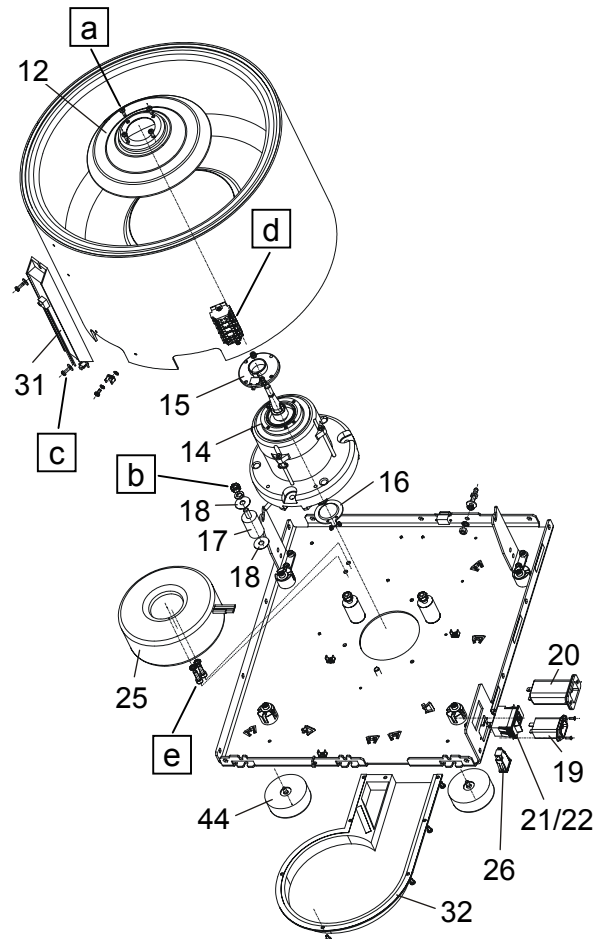
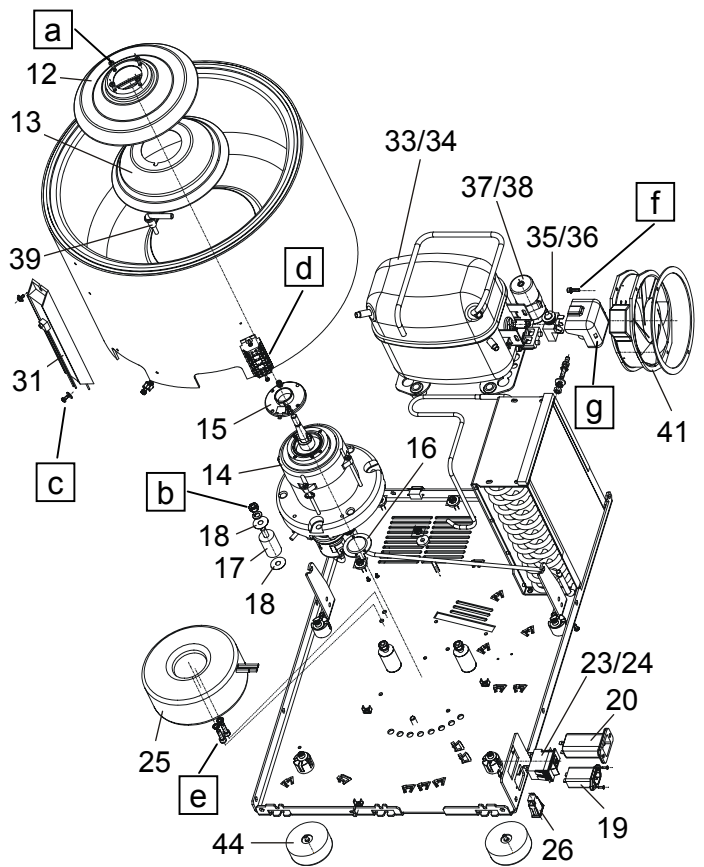

Fig. 4
Fig. 8
- Undo the 4 screws (pg. 78, Fig. 4, a ; pg. 79, Fig. 8, a) on the motor cover and remove the motor cover.
- In centrifuges with cooling, remove the rubber packing (pg. 79, Fig. 8, item 13) between the motor cover and the centrifuge chamber.
- Unscrew the speed sensor (pg. 78, Fig. 4, item 15 ; pg. 79, Fig. 8, item 15) from the upper end plate of the motor (2 screws) and place it in the centrifuge chamber.
- Unscrew the 3 nuts (pg. 78, Fig. 4, b ; pg. 79, Fig. 8, b) on the lower end plate of the motor.
- Unscrew the speed sensor / imbalance sensor (pg. 78, Fig. 4, item 16 ; pg. 79, Fig. 8, item 16) at the bottom of the motor (3 screws).
While mounting the rubber-metal bearings, make sure that there is an anti-twist device (pg. 78, Fig. 4, item 18 ; pg. 79, Fig. 8, item 18) on both sides of the bearing to prevent it from turning.
- Unscrew the speed sensor (pg. 78, Fig. 4, item 15 ; pg. 79, Fig. 8, item 15) from the upper end plate of the motor (2 screws).